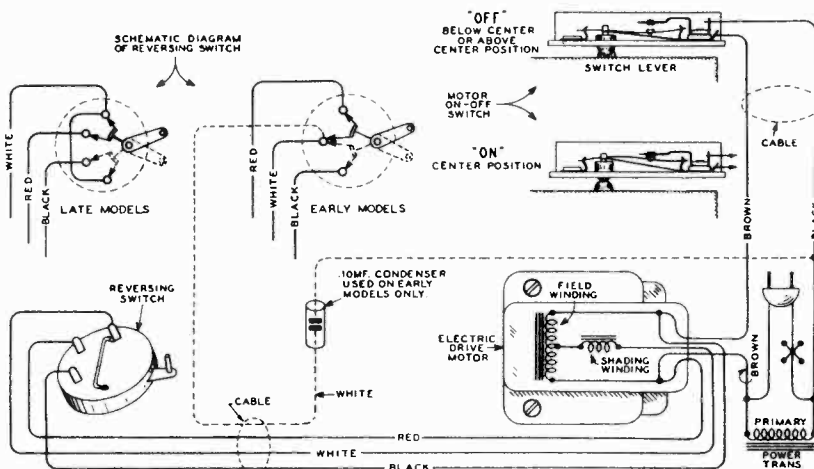

Fig. 24—Electric Drive Panel Wiring
(184) The function of the reversing switch is to provide a means of reversing the direction of the motor rotation just before the gang condenser rotor reaches maximum open or closed position as the radio is being tuned electrically. This is accomplished by means of the pin on the No. 4 drive gear casting operating the reversing switch lever. This lever trips the reversing switch which changes one of the motor windings from one side of the line to the other causing a reversal of the direction of rotation of the motor. The electrical connections for this circuit are shown in Fig. 24.
(189) To replace the switch, reverse the above procedure. The connections to the switch are shown in Fig. 24. If an early type switch requiring a condenser is replaced by a new type switch, the two leads from the metal shell tubular condenser should be disconnected and also the extra lead from the condenser to the switch.
(190) In Fig. 24 is shown the electrical wiring of the electric drive panel. Three distinct units, the motor, the on-off switch, and the reversing switch enter into the electrical operation. Since the operation of each of these units is discussed fully in the articles covering them, it will not be repeated here.
(193) If there is reason to believe that one or more of the electrical connections are open, check for continuity using Fig. 24 as a guide. Following are the D.C. resistances of the motor windings: